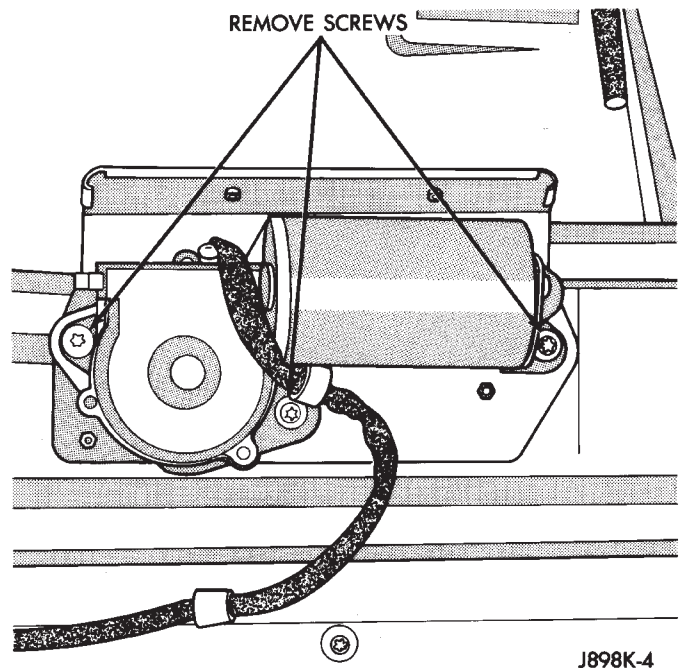
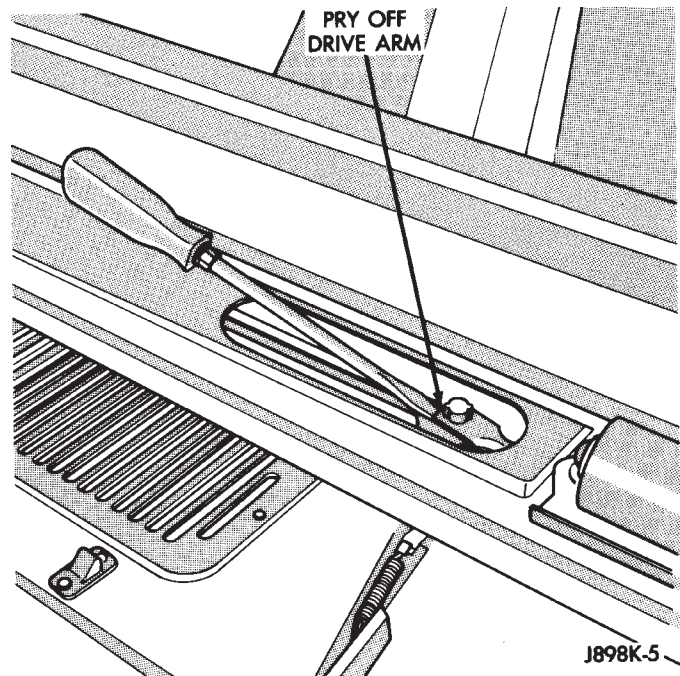
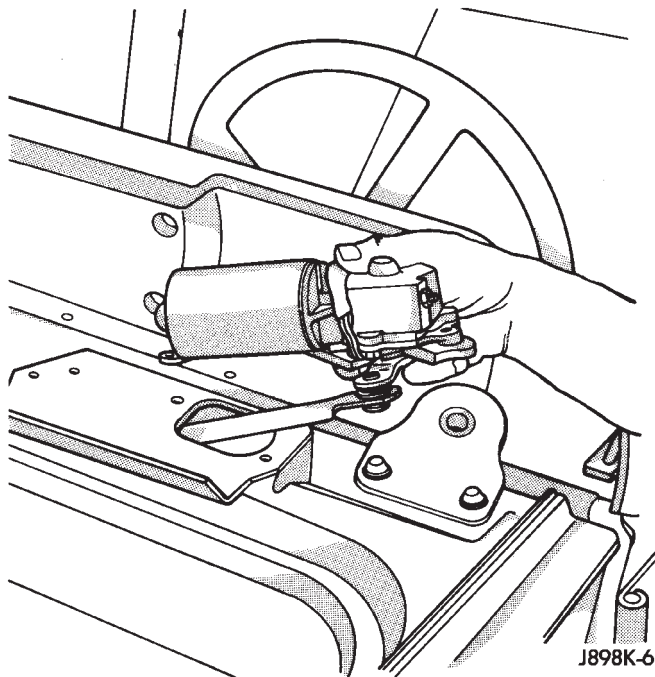
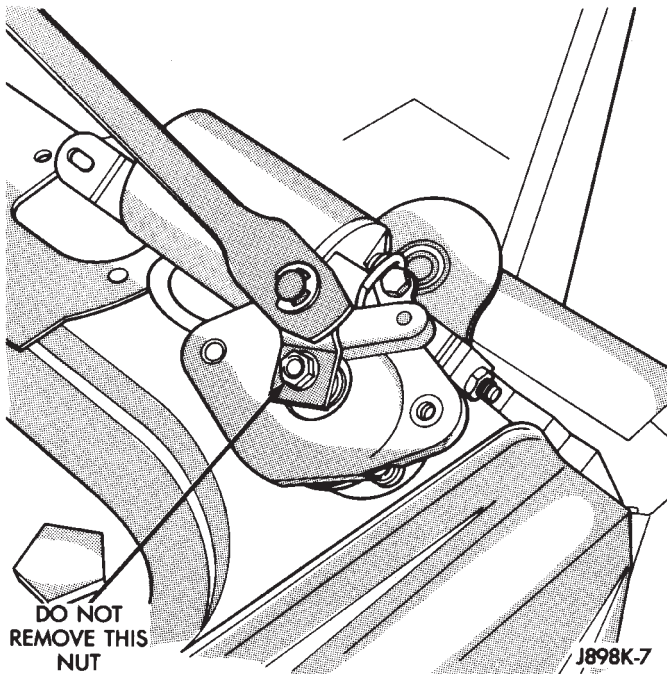

Fig. 4 Remove Wiper Motor Mounting Screws
Fig. 5 Disconnect Drive Arm
Fig. 6 Remove Wiper Motor and Drive Arm
Fig. 7 Drive Arm Removal
- (1) Remove the left and right wiper arms.
- (2) Remove the nuts attaching the pivots to the windshield frame.
- (3) Remove the necessary hard or soft top components from the windshield frame.
- (4) Remove the windshield holddown bolts in the lower corners of the instrument panel and fold the windshield forward.
- (5) Remove wiper motor mounting screws (Fig. 4).
- (6) Disconnect wiper linkage drive arm (Fig. 5).
- (7) Remove motor wiring clip from base of windshield frame.
- (8) Remove 4 inboard screws holding seal to bottom of windshield frame (protruding screw ends interfere with pivot link removal and installation).
- (9) Grasp motor and pull motor and drive arm out of access hole (Fig. 6).
- (10) Remove pivot shaft assembly through access hole.
- (11) Pry drive arm off the motor pivot. DO NOT remove pivot attaching nut (Fig. 7).
(1) Remove the necessary hard or soft top components from the windshield frame.
- (2) Remove the windshield holddown bolts in the lower corners of the instrument panel.
- (3) Remove wiper motor mounting screws (Fig. 4).
- (4) Remove wiper motor harness retaining clip located on bottom of windshield.
- (5) Disconnect the wiper linkage drive arm (Fig. 5)
- (6) Grasp the motor and pull the motor and drive arm out of the access hole (Fig. 6).
- (7) Pry the drive arm off the motor pivot. DO NOT remove the pivot attaching nut (Fig. 7).
- (8) Remove 2 screws holding intermittent wipe module bracket to bottom of instrument panel.
- (9) Reach up behind instrument panel and disconnect wiper motor harness.
- (10) Remove wiper motor.